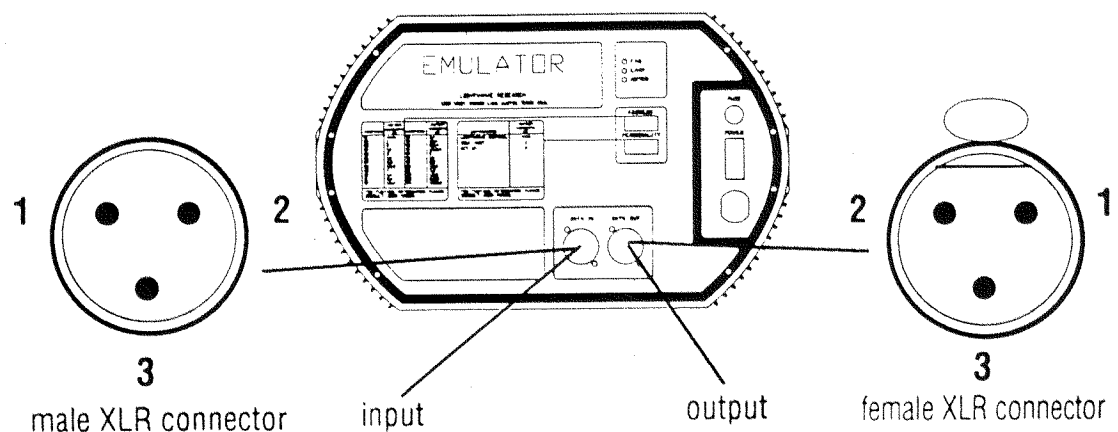

Figure 2.23 Rear Panel of the Emulator Fixture
The *data out* connection on the Emulator fixture is a female connection. It is located on the rear panel of the fixture near the bottom center of the panel to the right of the *data in* (male) connection. (See Fig. 2.23)
1. Plug the male end of a data cable into the *data link out* connection on the rear panel of the controller. (See Fig. 2.23)
2. Plug the female end of that data cable into the *data in* (male) connection of the first fixture. (See Fig. 2.23)